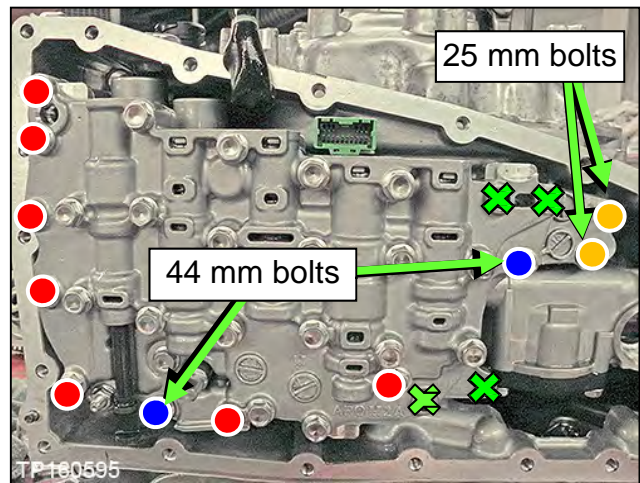
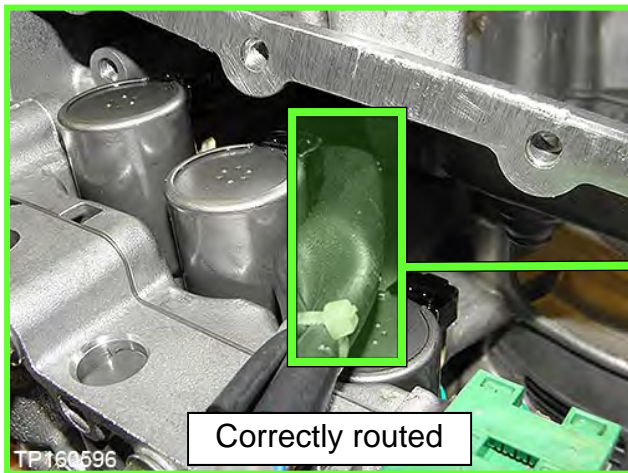
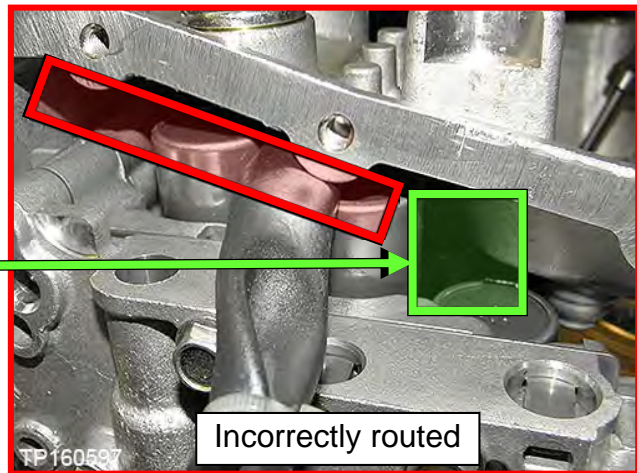

Figure 152
Figure 153
Figure 154
117. Install the Control Valve with eleven (11) mounting bolts (Figure 152).
**IMPORTANT:** Leave four (4)  bolt holes empty at this step.
**CAUTION:** Make sure the wiring harness is not pinched (see Figure 153 and Figure 154 for correct routing).